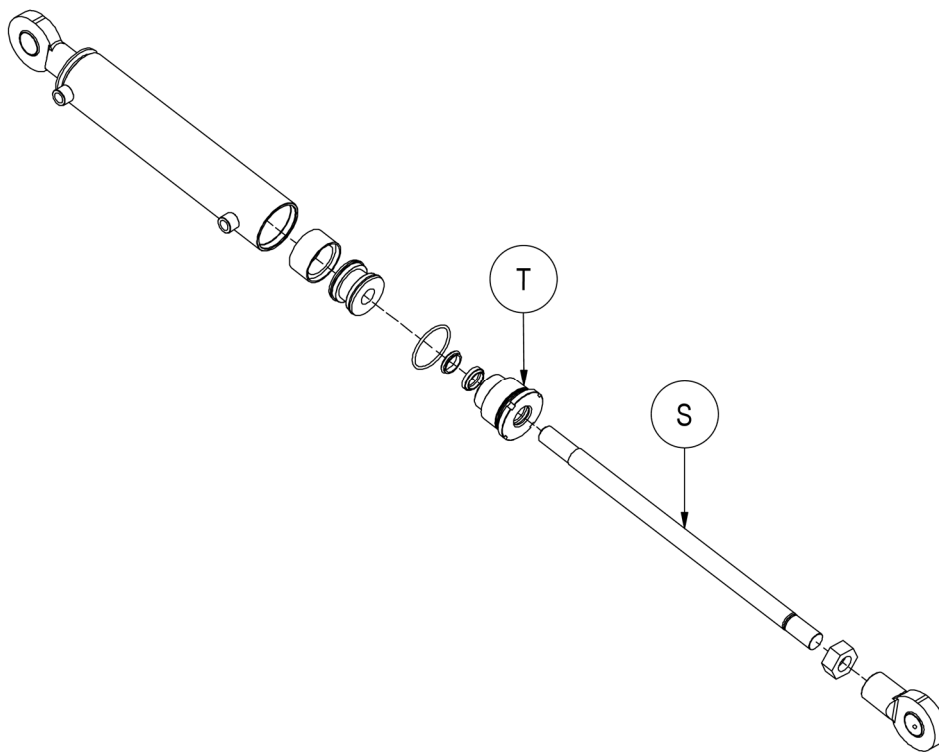

Figure 28
8. For reference, see *Figure 28*.